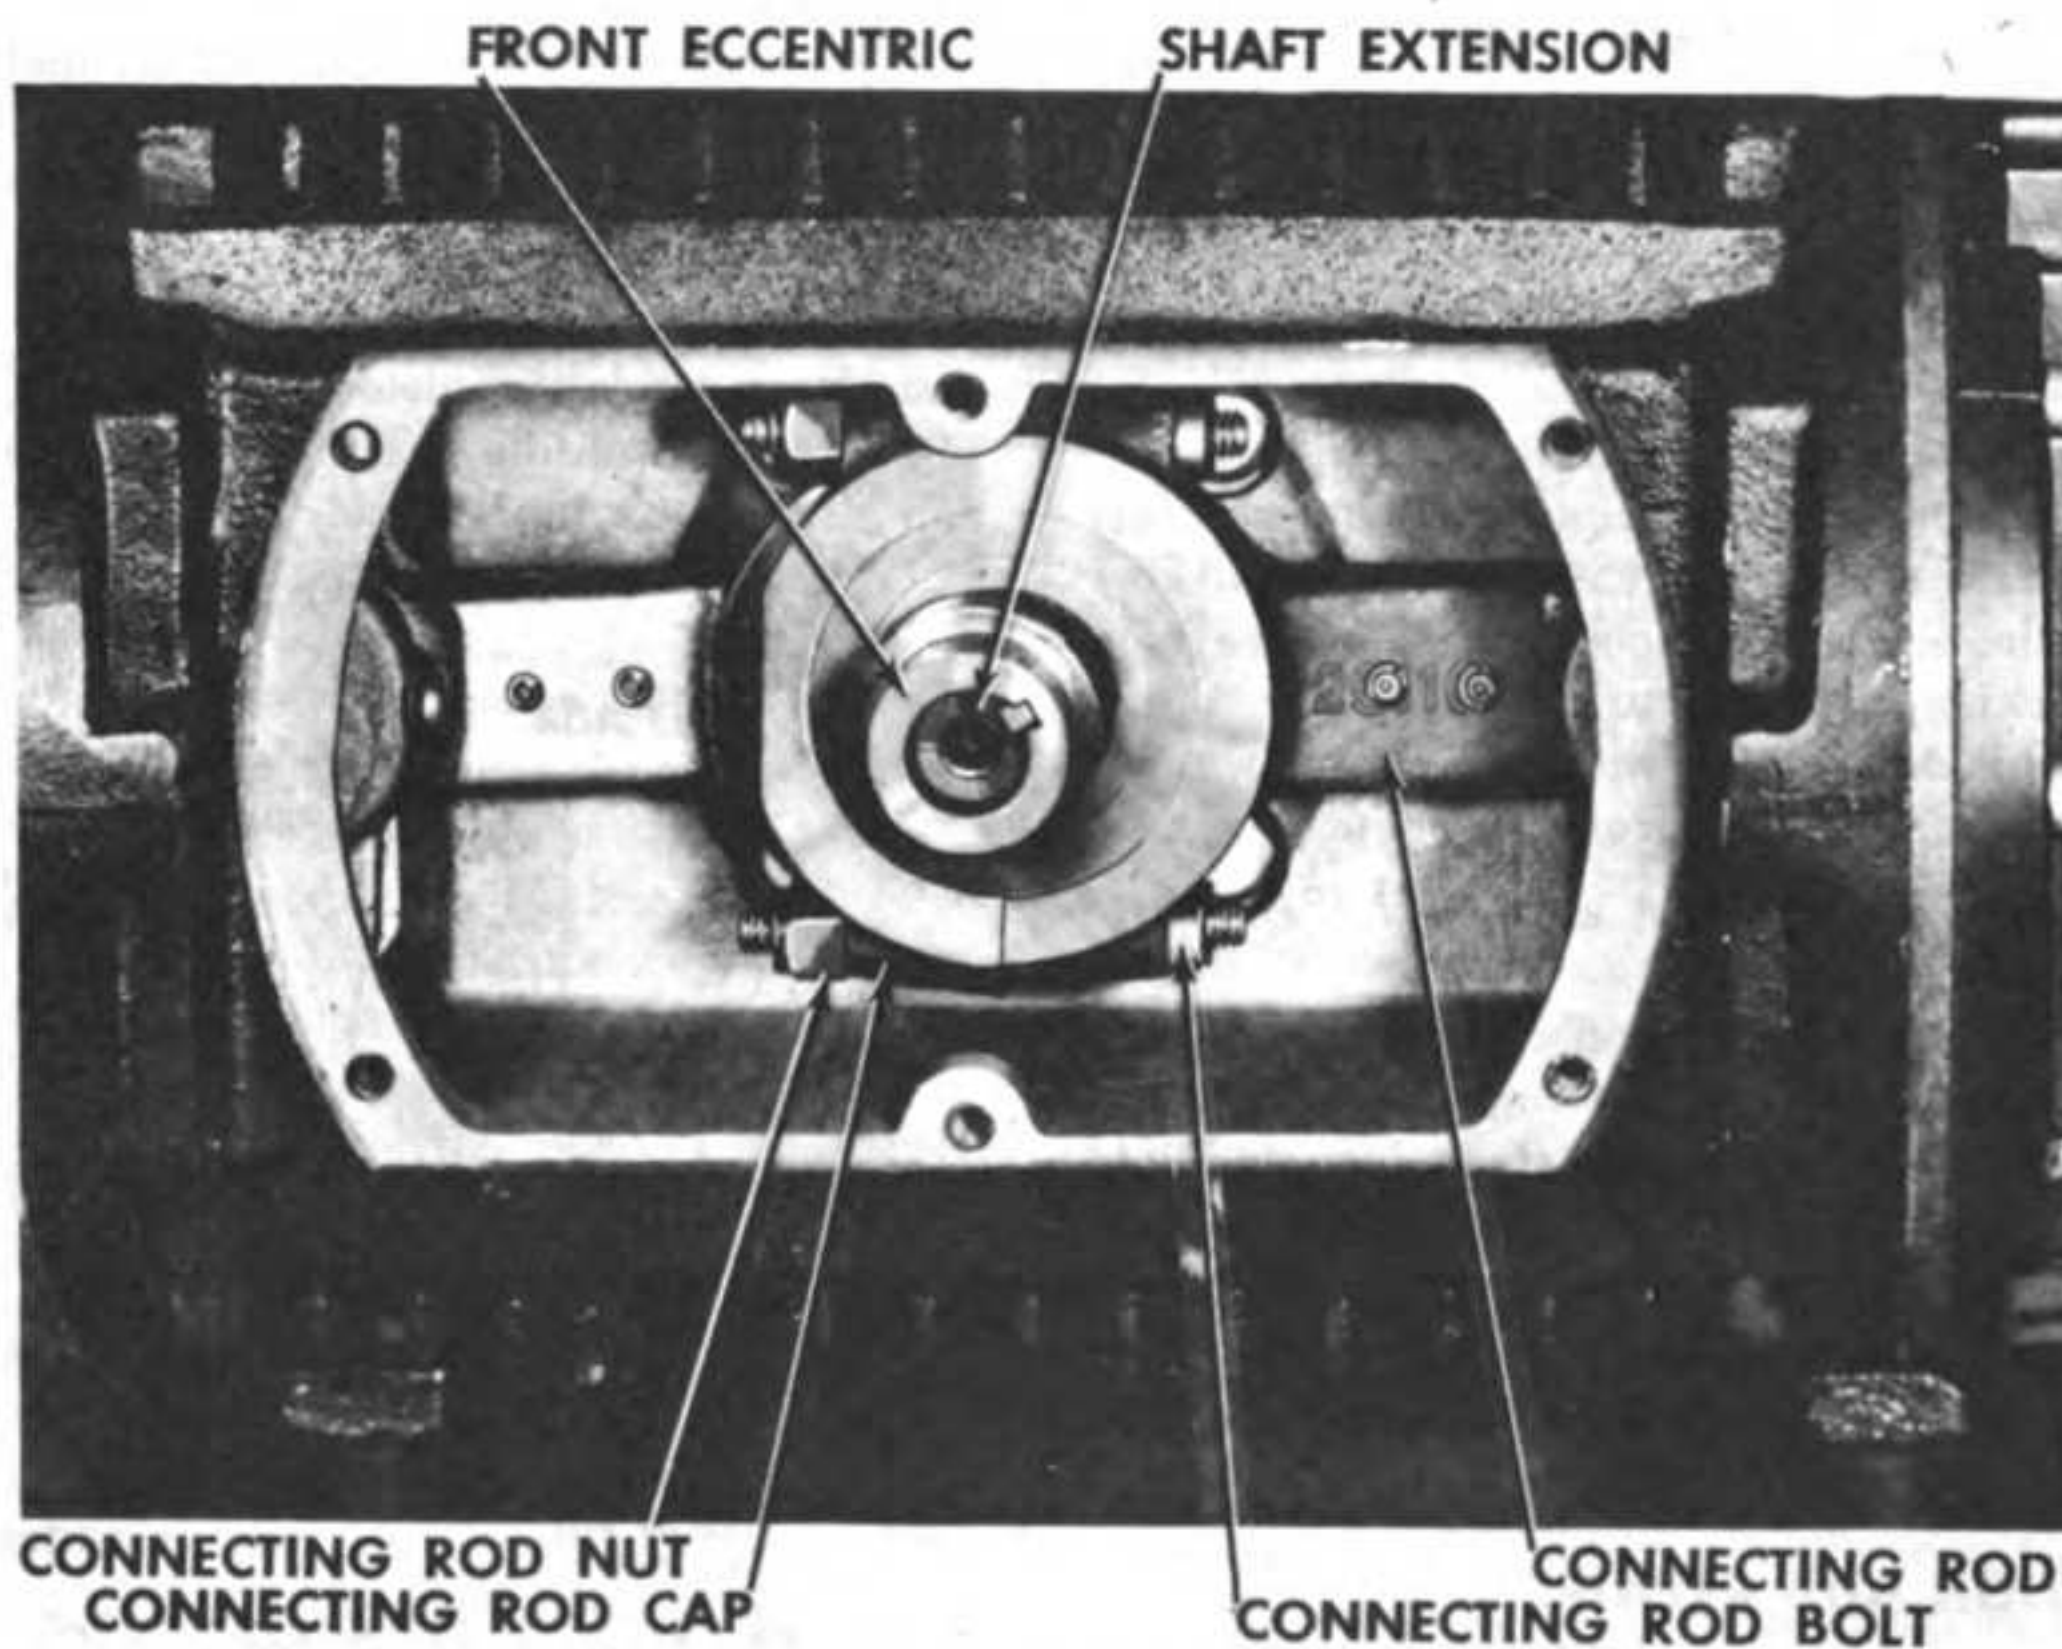

Figure 54—Outer Bearing Removed
g. Remove nuts and bolts securing connecting rod caps to the connecting rods, freeing the caps. (See figure 54.)